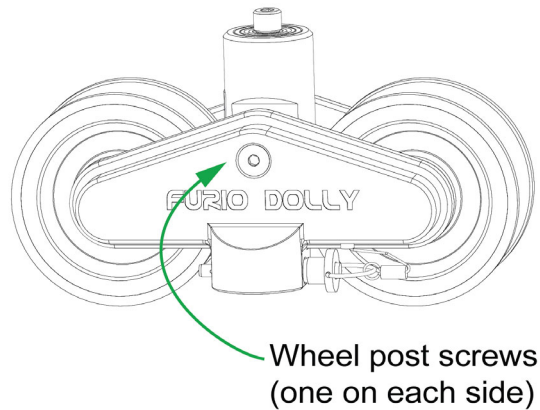

Figure 10 - Passive Wheel Post Screws
- Use a 5 mm hexagonal wrench to secure the two screws into the new post, as shown in **Figure 10**.